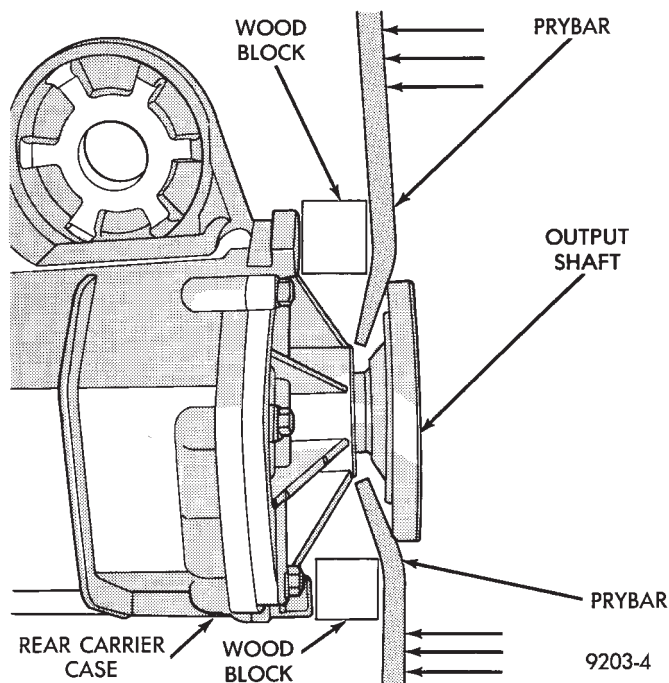

Fig. 4 Output Flange Removal
- (3) Using two pry bars and wooden support blocks, pop out output shaft (Fig. 4).